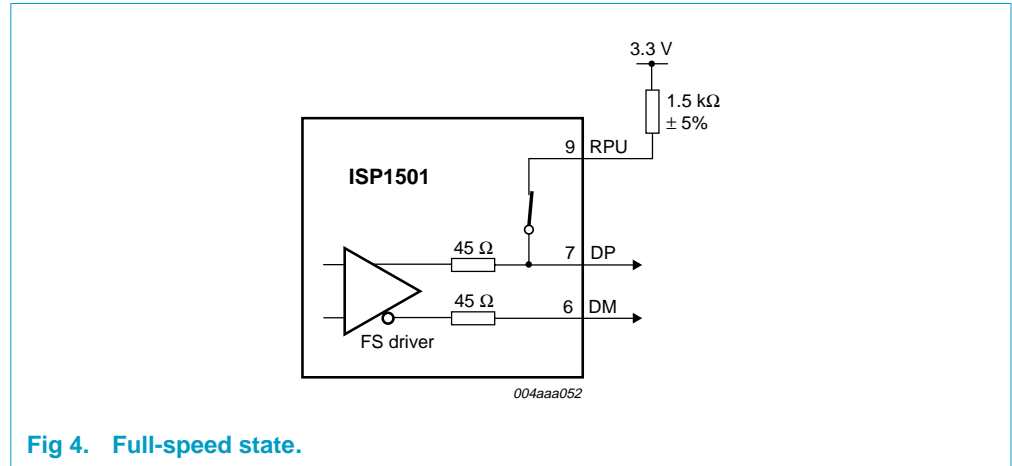

Fig 4. Full-speed state.
**8.2.2 Full-speed (FS) state**
In the full-speed (FS) state (MODE[1:0] = 01), an external pull-up resistor of 1.5 kΩ ± 5% is required on the DP line. This is implemented via the RPU resistor. The RPU resistor is internally connected to the DP line. The FS transceiver is enabled, and the legacy (Original USB) SIE interface is active (see Figure 4).